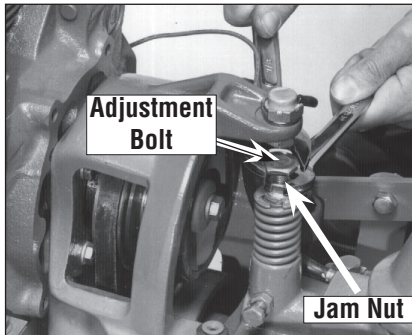

Figure 5-28: Loosen jam nut before turning reverse adjustment bolt.
4. Place a 7/8" wrench on the head of the reverse adjustment bolt and a 9/16" wrench on the jam nut below it (Figure 5-28). Hold the bolt steady while loosening the jam nut three or four turns.
with a second wrench (Figure 5-28).